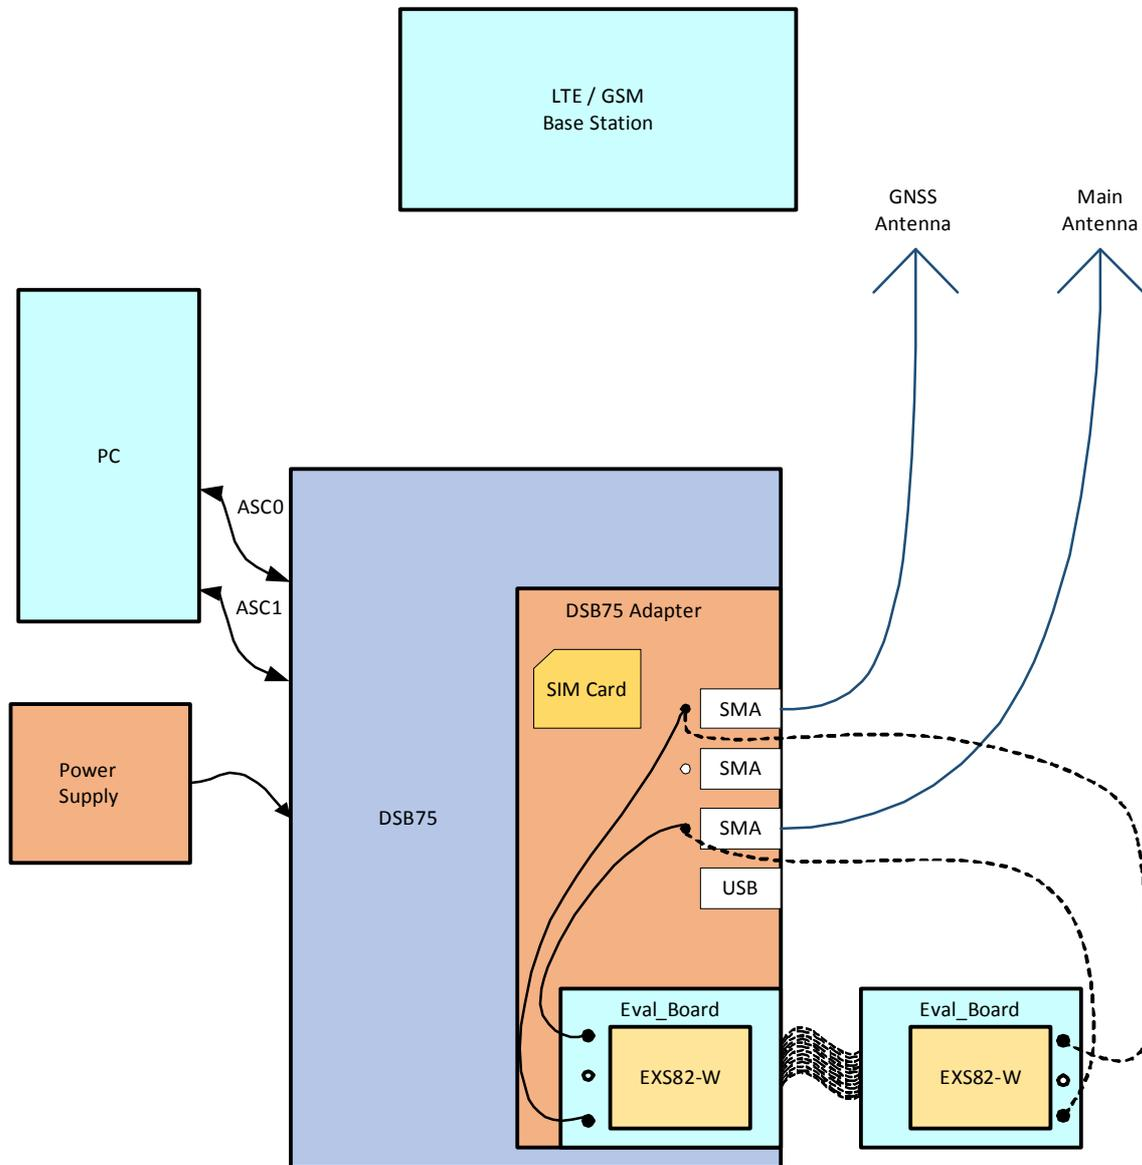

Figure 16: Reference equipment for type approval
1. For RF performance tests a mini-SMT/U.FL to SMA adapter with attached 6dB coaxial attenuator is chosen to connect the evaluation module directly to the GSM/GNSS test equipment instead of employing the SMA antenna connectors on the EXS82-W-DSB75 adapter as shown in Figure 16. The following products are recommended: